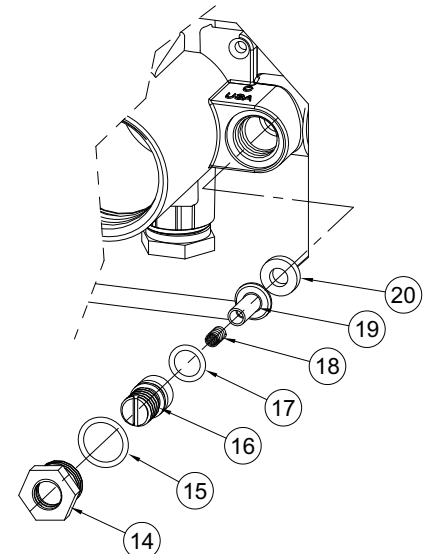

FIGURE 4
8. Inspect valve **cartridge 11** ensuring that 'D' shaped grooves have cartridge screen **O-rings 13** in them and that stainless steel **screens 12** are seated. See **Figure 4**.